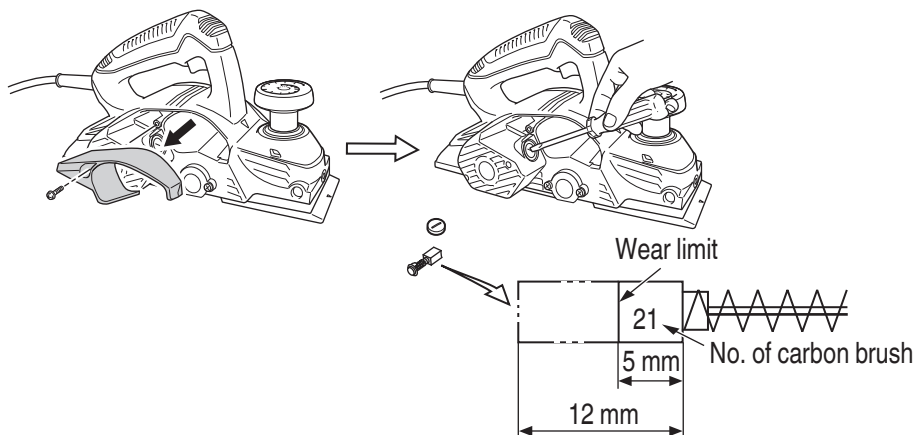

Fig. 28
4. Inspecting the carbon brushes (Fig. 28)
5. Replacing carbon brushes (Fig. 28)